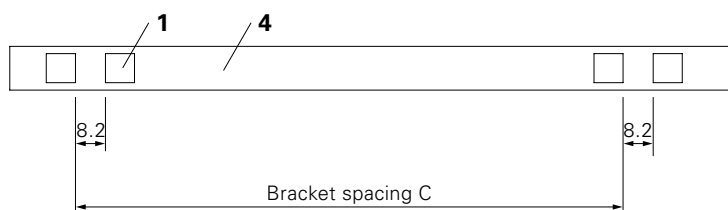

Fig. A1.02
- Locating Block (1) 12 plywood blocks 21 x 80 x 80 mm.
- Support h = approx. 24 cm, e.g. GT 24 (2) L = max. bracket spacing + 1.0 m.
- Stop bars 1 plank 40 x 120 mm (3) 1 plank 80 x 80 mm L = max. bracket spacing + 1.0 m.
- Gauge for bracket spacing C 1 plank 40 x 120 mm (4) L = bracket spacing + max. 1.0 m formlining blocks (1) (Fig. A1.02)
(For spacings: see Fig. A1.02)